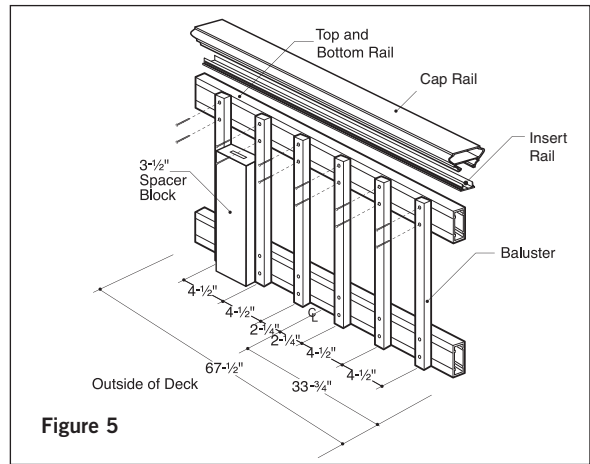

Figure 5
Traditional, Baroque and Arc balusters: Both top and bottom rails will be installed with the pre-drilled holes facing down to prevent water from collecting in the rail. Maximum 4-1/2" on-center and equal spacing for the end spacing. Start by finding the center of the rail. Rail length $\div 2$ = center of rail. Start the first aluminum balusters 2-1/4" on-center each side of the center line. Mark every 4-1/2" from these lines to each end. This will leave the end spacing 4" or less on both ends and require 14 aluminum balusters (**Figure 5**). Tip: Use a piece of 2x4 (3-1/2" actual) as a spacer block for the spacing between balusters.
Glass balusters: 7-1/2" on-center and equal spacing for the end spacing. Start by finding the center of the rail. Rail length $\div 2$ = center of rail. Start the first glass baluster on-center of the center line. Mark every 7-1/2" from the center line to each end. This will leave the end spacing 4" or less on both ends and require nine glass balusters. Tip: Use a piece of 2x4 (3-1/2" actual) as a spacer block for the spacing between balusters (**Figure 5**).
Step 12 Traditional, Baroque, Arc and Glass balusters: Start the first two balusters 2-1/4" on-center each side of the center of the rail and work out to each end (on-center of the center line if using glass). Using the baluster as a guide, drill 9/64" holes in the rails at each baluster location. Use a 2x4 as a spacer block to space the next baluster. Working toward the ends, drill and attach each baluster with the screws provided (**Figure 5**).